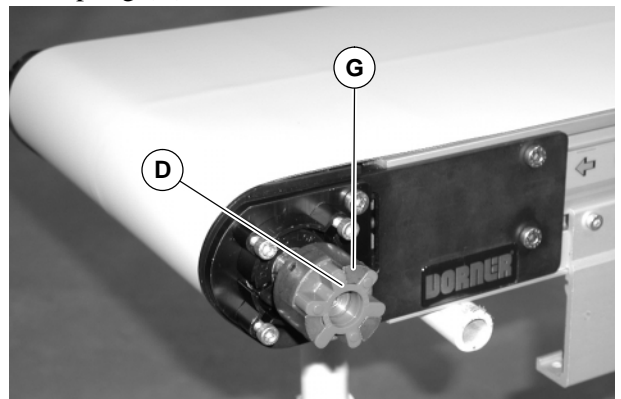

Figure 4
2. Install spider bushing (D of Figure 4) in three jaw coupling (G).